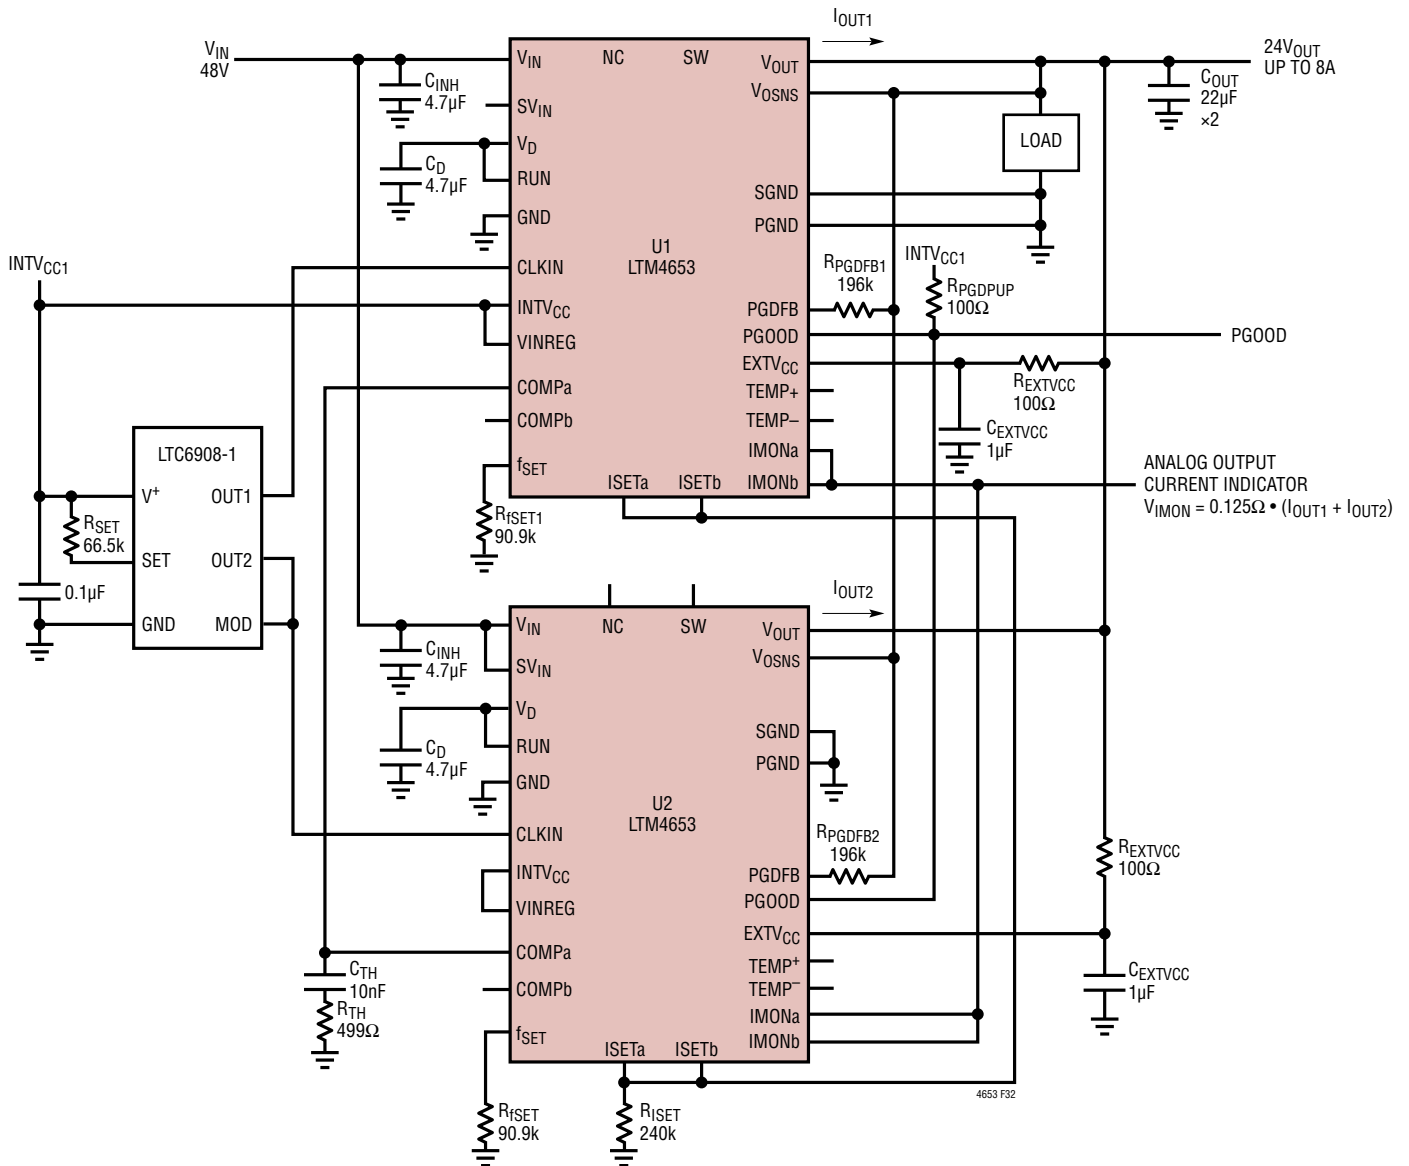

Figure 32. 24V Output at Up to 8A from 48V Input, 2-Phase Paralleled with Analog Output Current Indicator
- For parallel module applications, connect the V_{OUT} , V_{OSNS} , RUN, ISETa, COMPa and PGOOD pins together as shown in Figure 32.